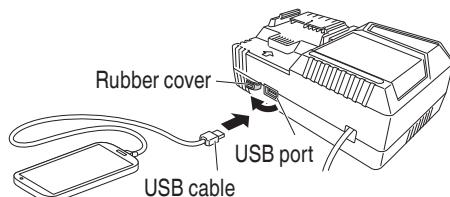

Fig. 12
(2) Connect the USB cable. (Fig. 12)